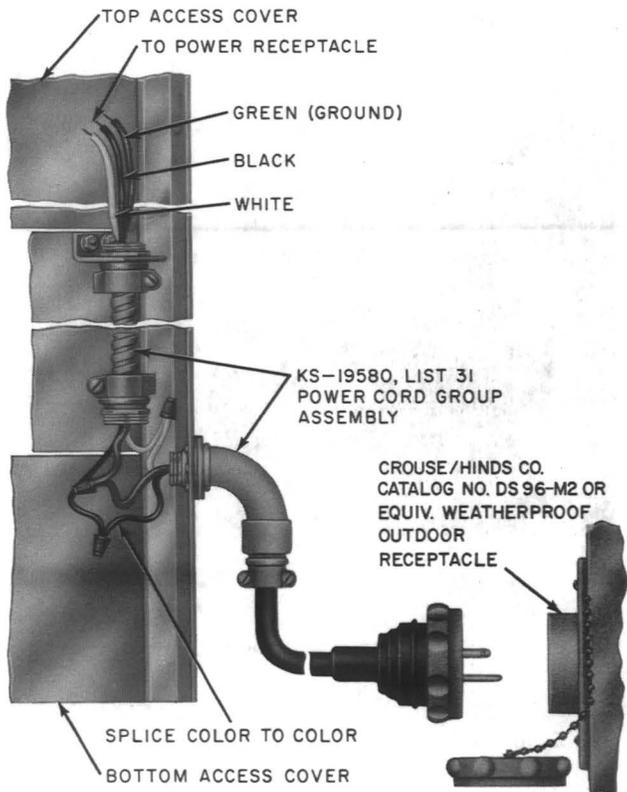

Fig. 18—KS-19580, List 31 Power Cord Group Assembly for Ground Level Entrance
**3.10** Refer to paragraph 2.13 for available cords and Fig. 18 and 19 for their usage.